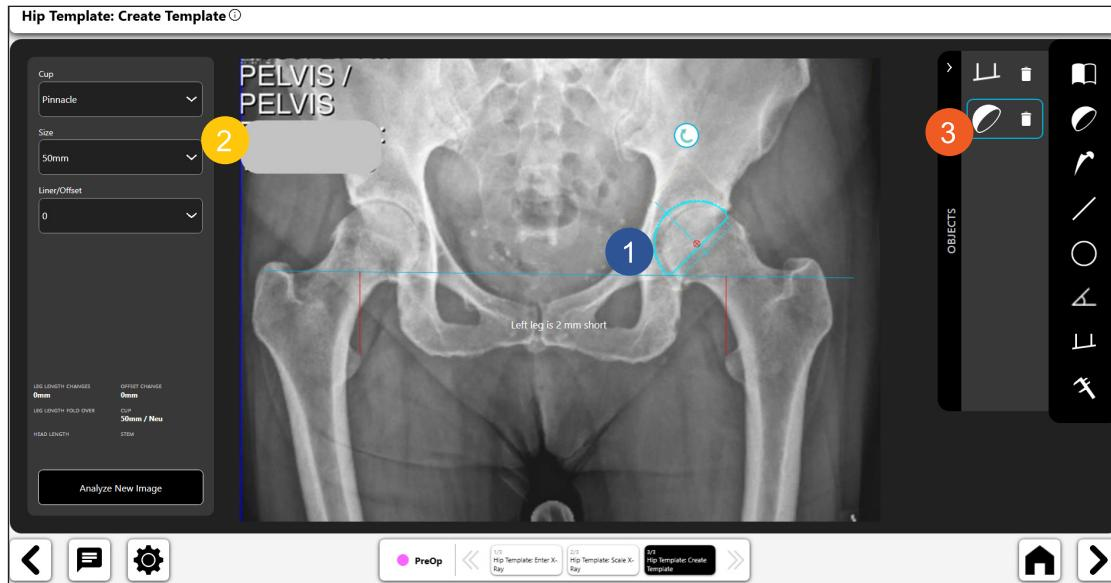

Figure 28: Create Template Screen - Acetabular Cup Tool
- Figure 28, No. 3 shows a ‘toggle icon’ for the acetabular template, showing that it is activated. You can delete the template by selecting the trash can icon displayed within the toggle icon.